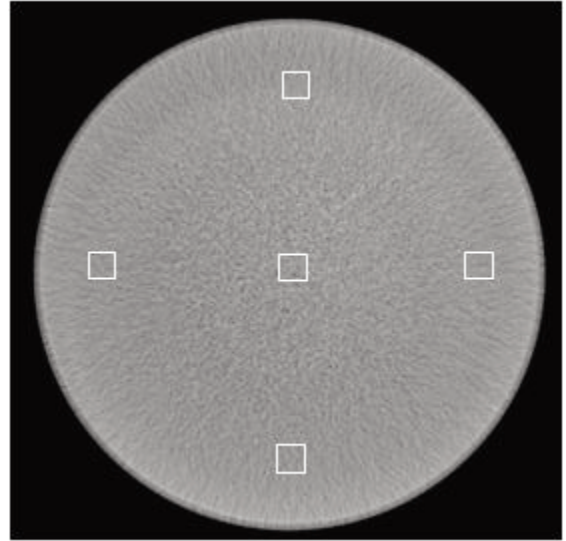

Figure 17.4-1: ROIs for CT number for water
4. Place an ROI of approximately 8 mm by 8 mm at the center of the image and the four edge positions as shown in Figure 17.4-1. For the edge ROIs, place the center of the ROI at approximately 75% of the radius.